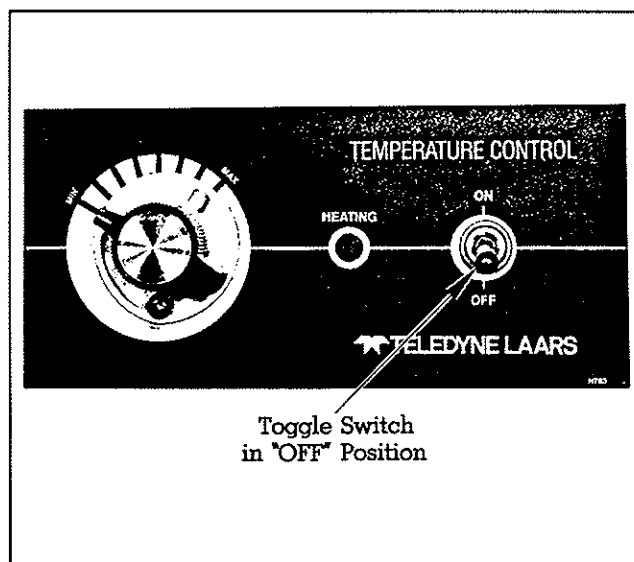

Figure 12. Temperature Control
2. Turn the toggle switch to OFF (see Fig. 12).